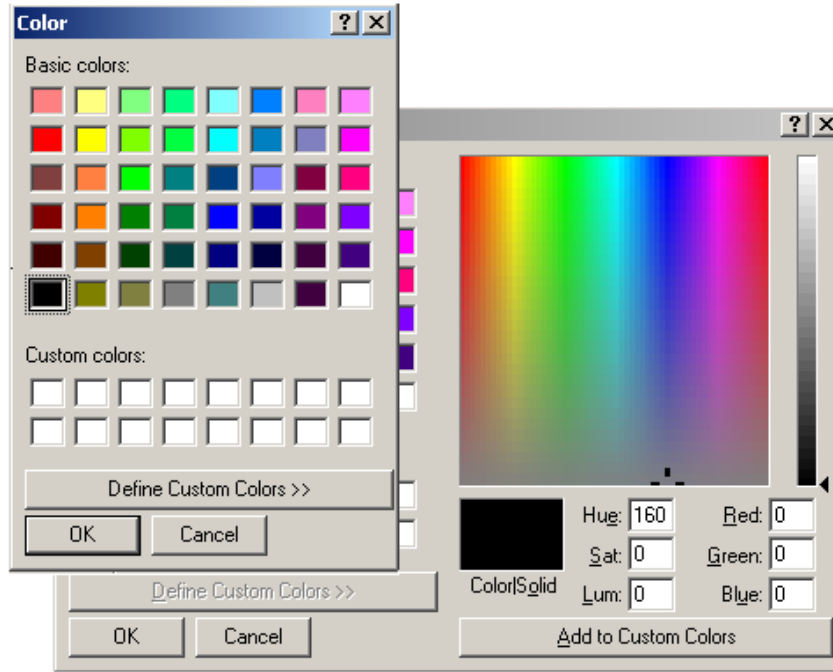

Fig 3-139: **Color** panel with its advanced view.
Step 3: Choose a color by following the method shown in Fig 3-139.